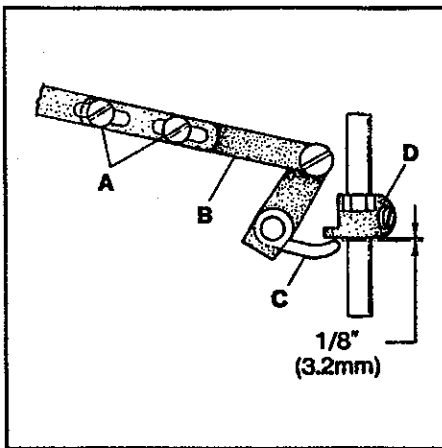

FIG. 21
Replace the presser spring and the presser bar regulating screw. Loosen screws (A, Fig. 21) in lifter lever link assembly (B) and position lever (C) so there is $1/32$ " (0.8mm) clearance between it and presser bar guide (D) when the feed dogs are below the throat plate.
Make sure the $1/32"$ (0.8mm) clearance between the presser bar lifter lever and presser bar guide has been maintained. Refer to Fig. 21 if readjustment is necessary.